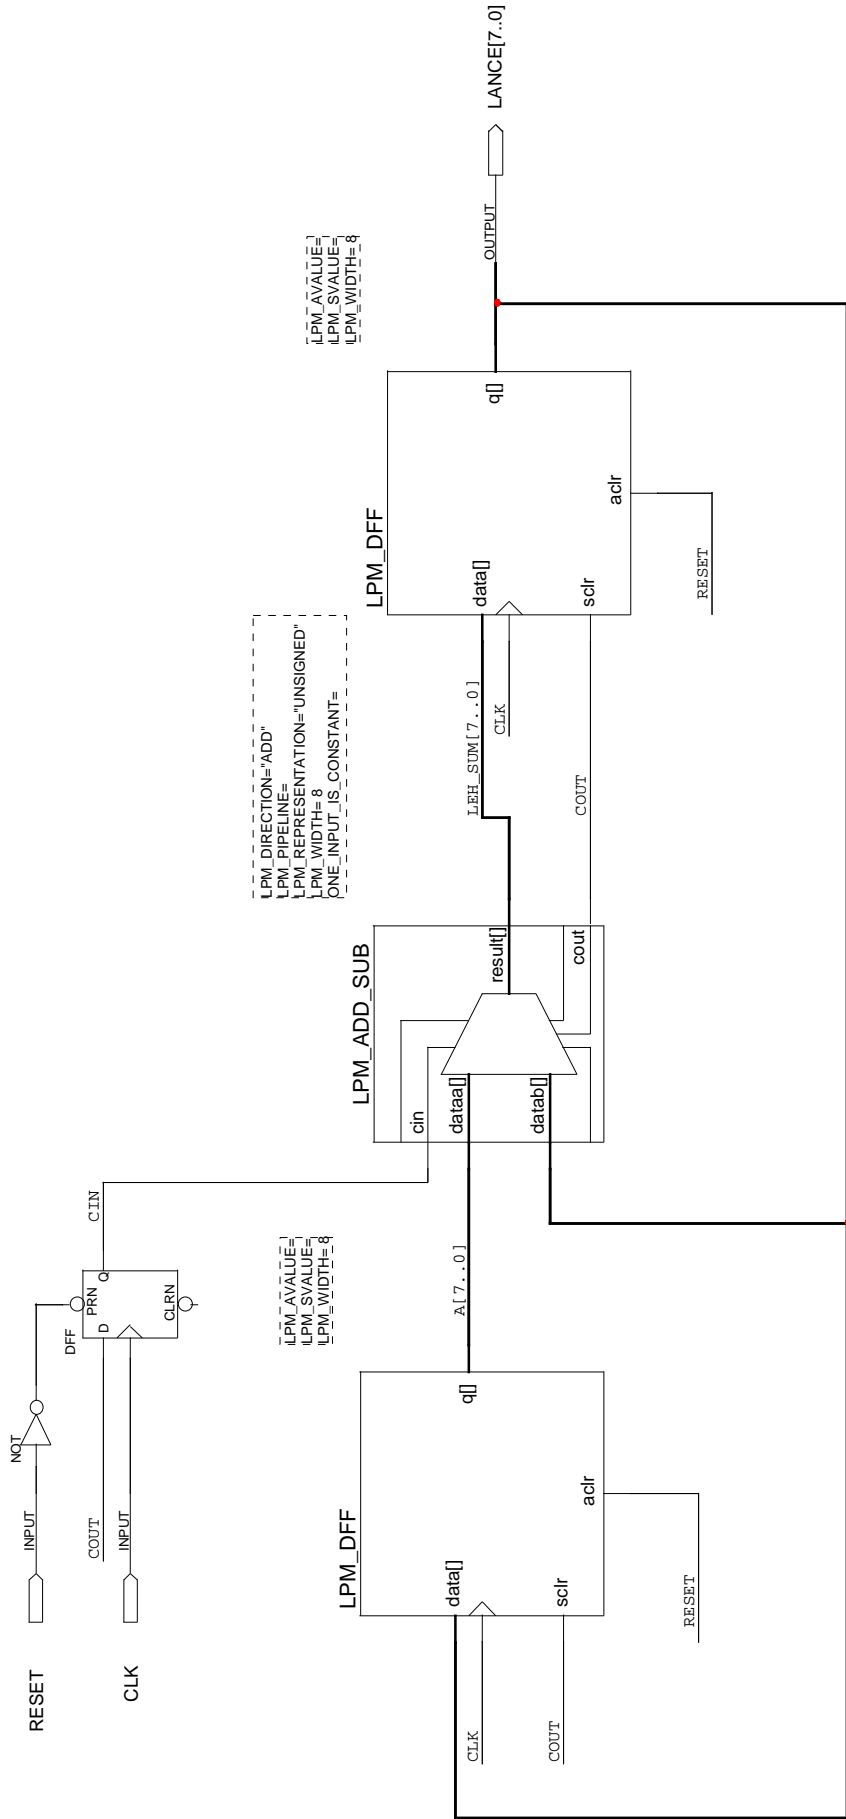

FIGURE 1
- Altera schematic for your Fibonacci sub-circuit. (This will be similar to Figure 1.)